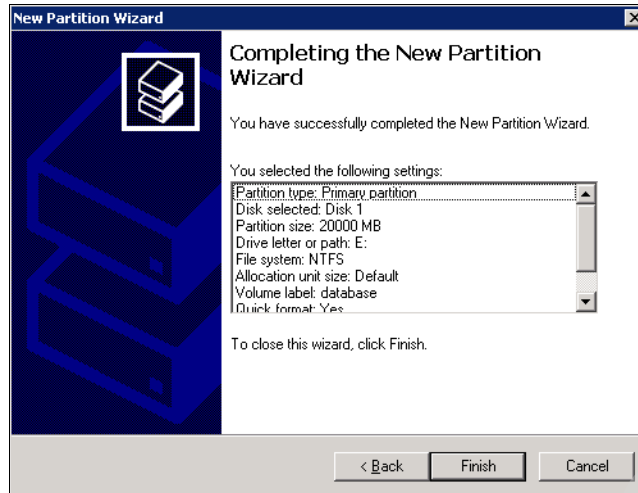

Figure 25-23 Completing the new partition
12. The Completing the New Partition Wizard view appears (Figure 25-23 on page 625). Review your selections and click **Finish** to complete the tasks.